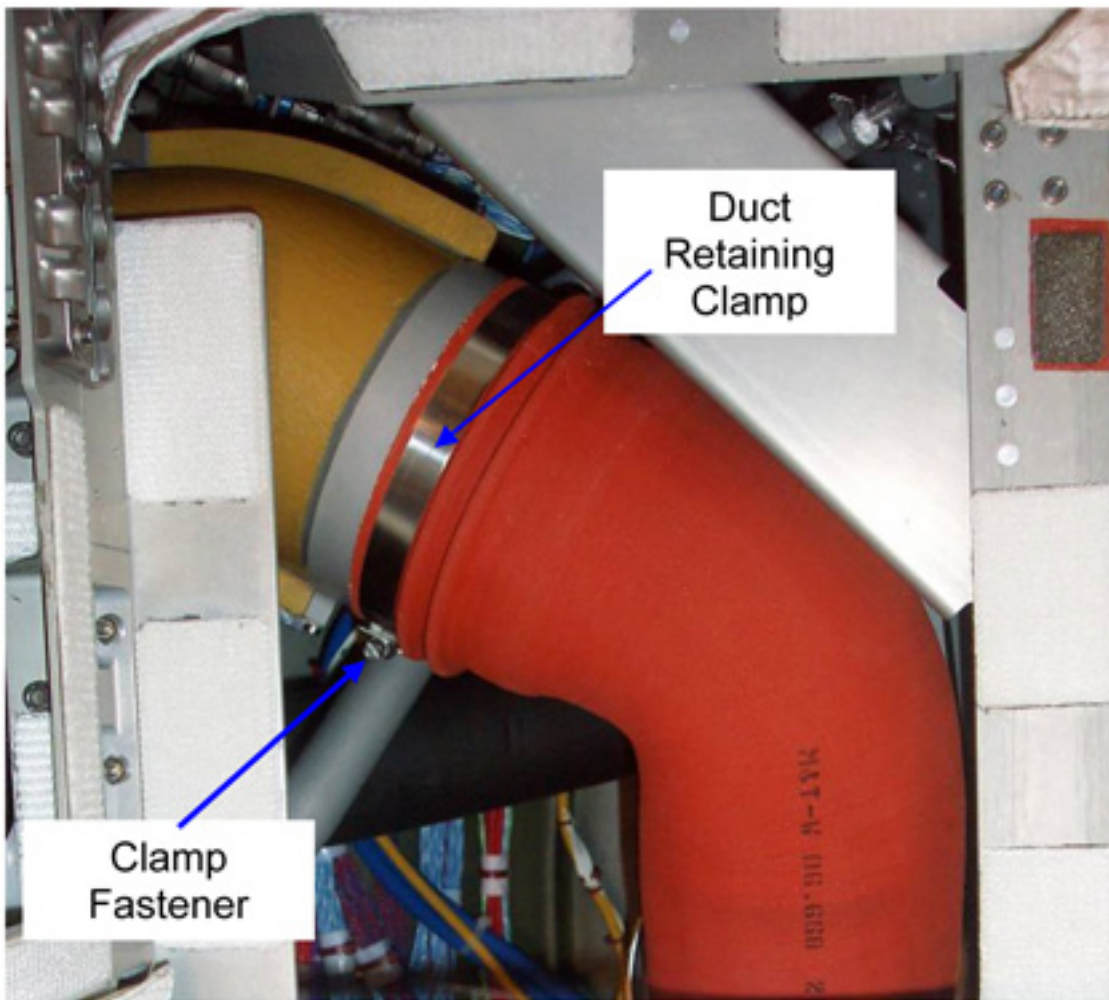

Figure 10. IMV Duct Retaining Clamp
- 3.7 Loosen the IMV Duct Retaining Clamp, fastener (4" Common Tip Screwdriver) and leave on the IMV Duct. Refer to Figure 10.
Refer to Figure 10.